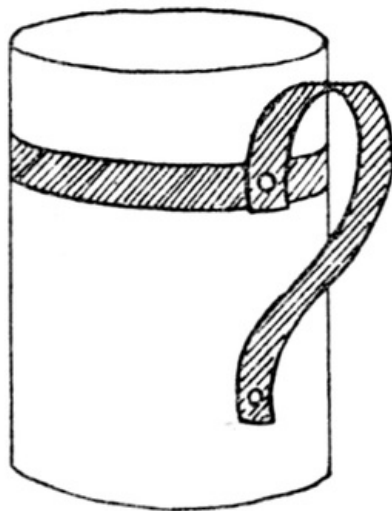

FIG. 57
**A Mug** (Fig. 57). This is made like the bucket. The handle is made of a strip of paper fastened to the mug by paper-clips. A band of coloured paper is gummed round the mug; the handle can be made of the same coloured paper as the band.